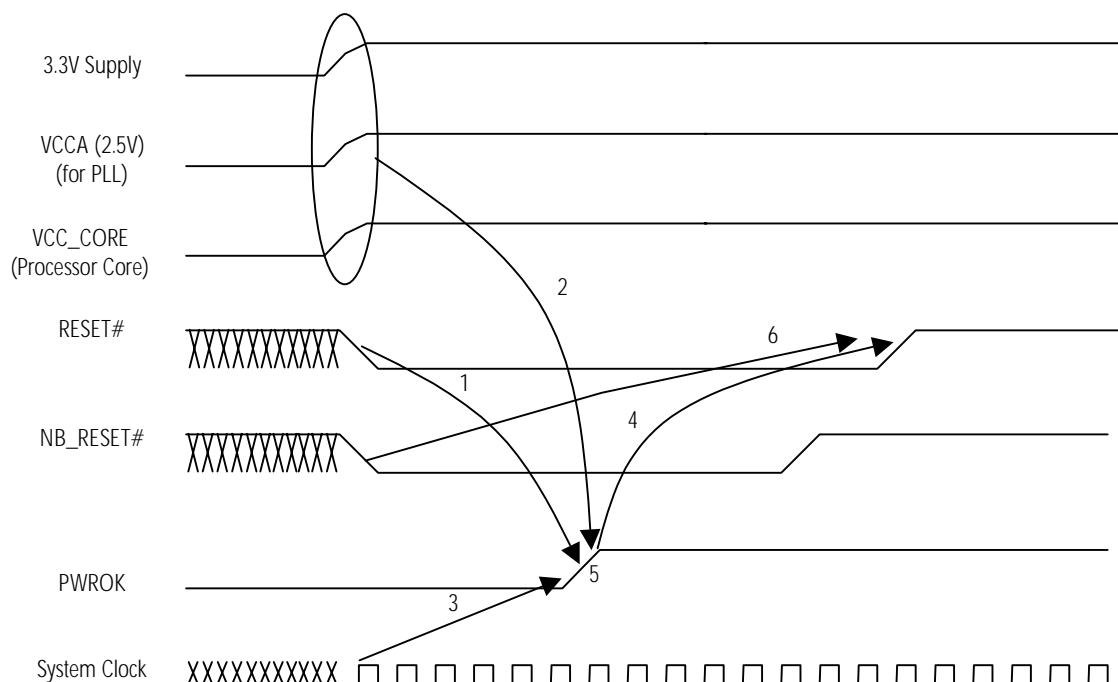

Figure 10. Signal Relationship Requirements During Power-Up Sequence
Figure 10 shows the relationship between key signals in the system during a power-up sequence. This figure details the requirements of the processor.
Notes: 1) Figure 10 represents several signals generically by using names not necessarily consistent with any pin lists or schematics.
2) Requirements 1-6 in Figure 10 are described in the following section.